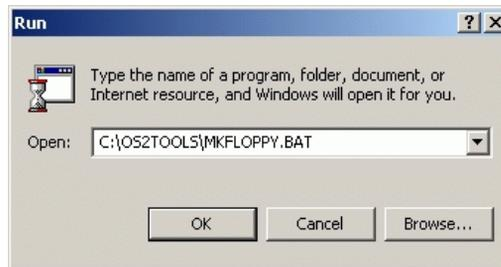

Figure 55 Run Dialog Box
2. At the server's Windows 2000 desktop (Figure 13), click *Start* at the left side of the task bar, then select the *Run* option. The *Run* dialog box displays (Figure 55).